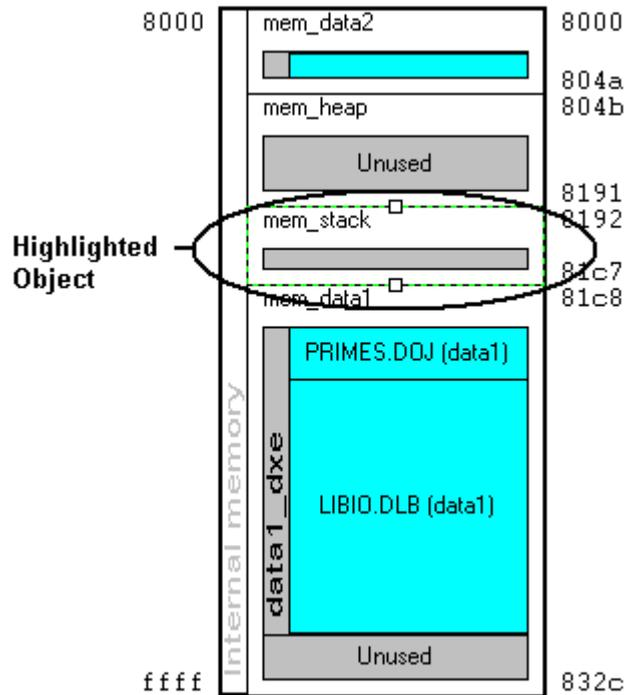

Figure 3-20. A Highlighted Memory Segment in the Memory Map
-  When an object is selected in the memory map, it highlights as shown in Figure 3-20 on page 3-27. If you move the mouse pointer over an object in the graphical memory map, a yellow tooltip appears displaying the information about the object (such as name, address, and size).